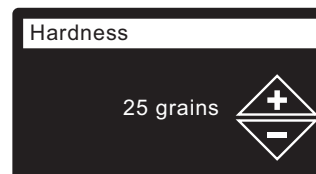

FIG. 22
21. **HARDNESS** Press the UP (▲) or DOWN (▼) buttons to set the value of your water's hardness (See Figure 22).